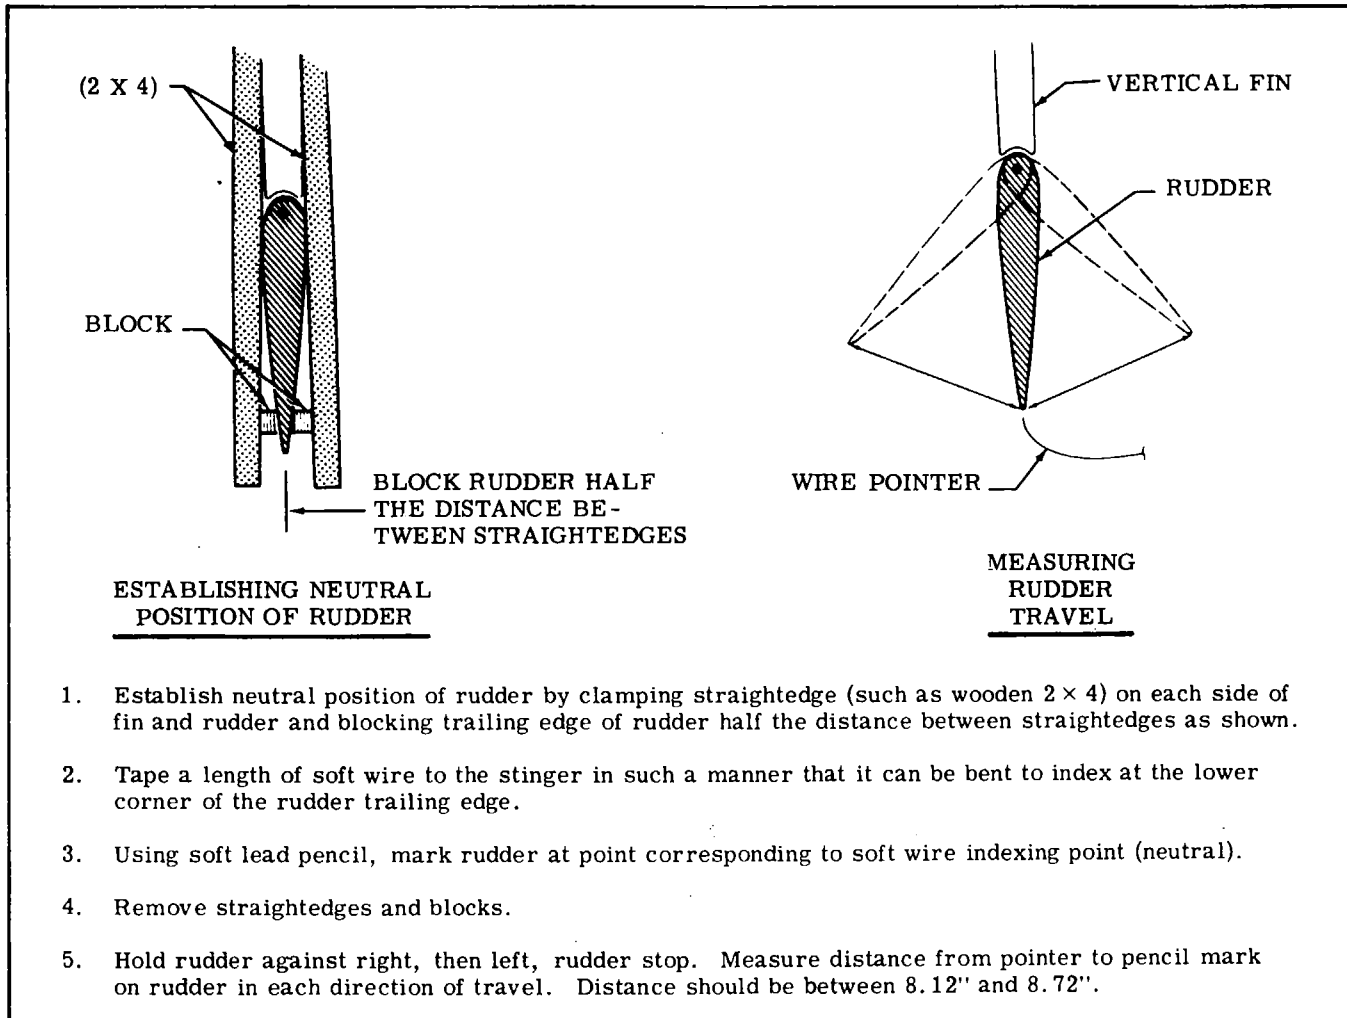

Figure 10-4. Checking Rudder Travel
a. Adjust travel stop bolts (index 8, figure 10-1) to attain correct rudder travel as specified in figure 1-1. Figure 10-4 illustrates correct travel and one method of checking.
b. THRU AIRCRAFT SERIALS 18261328 AND A182-0136. Remove rudder trim chain (10) by removing the lower screws from support bracket (7), using care not to drop washers (20). These washers are used as shims to adjust chain (10) tension by raising or lowering support bracket (7). Spring bracket (7) downward until chain (10) can be disengaged from sprockets (9 and 19).
c. BEGINNING WITH AIRCRAFT SERIALS 182-61329 AND A182-0137. Loosen adjustable idler sprocket (25) and disengage chain from sprockets (9 and 19).
d. Disconnect steering bungee adjustable rod end (26) from wiffletree (14).